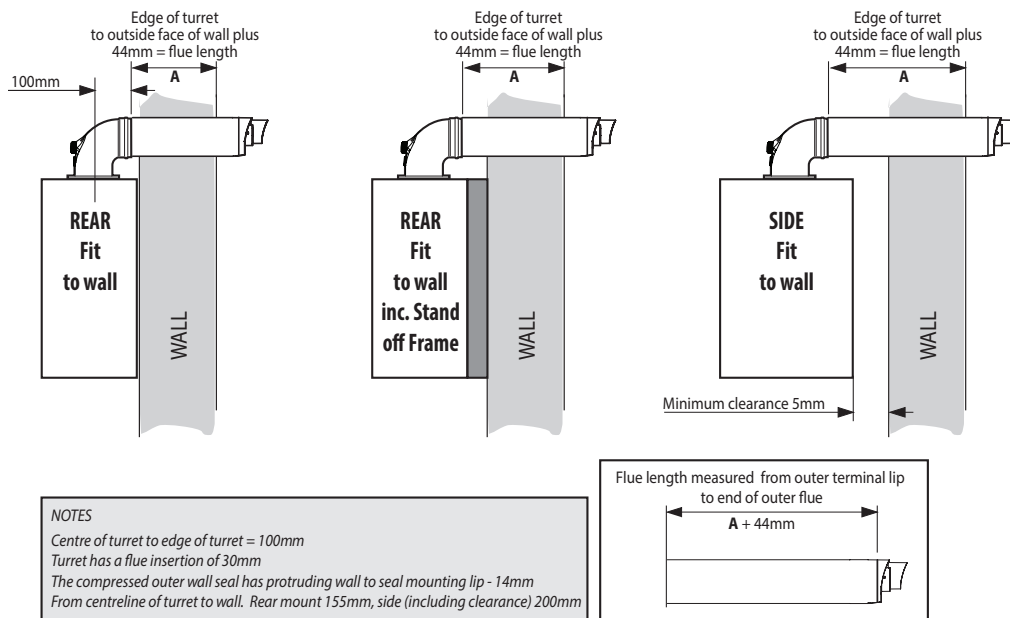

**FIGURE 2**
1. Measure the required cut flue length (A+44mm). If inside the dimensions shown in Figure 2 "1 Piece 600mm" proceed.